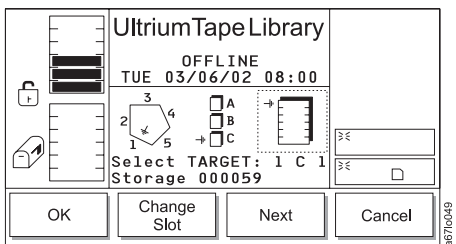

Figure 4-71. Change Slot Dialog
- b. Press the button below the **Change Magazine** softkey until the arrow in the middle icon points to the magazine that you want. Press the **Next** softkey. The Change Slot Dialog displays (see Figure 4-71).